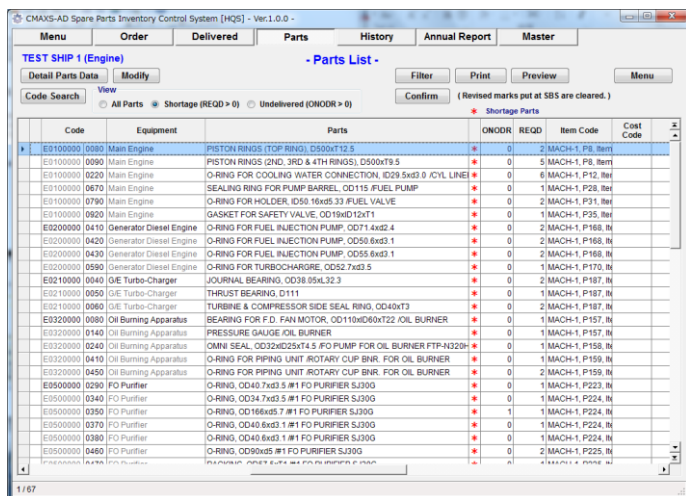

Fig.12-2 Parts List Screen
- (2) “Parts List Screen”(Fig.12-2) is displayed. In this screen, all spare parts consumed in the last 12 months is displayed.